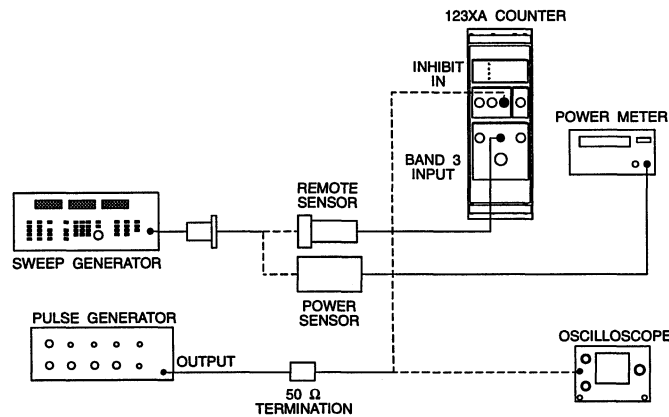

Figure 4-7. Band 3-1 Frequency Range and Sensitivity Test Setup.
1. Connect equipment as shown in Figure 4-7.